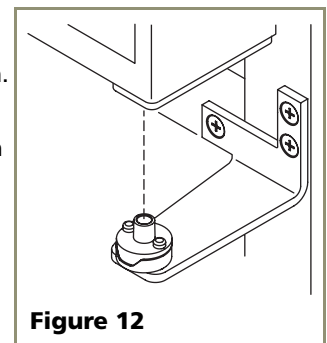

Figure 12
8. Holding door upright with top of door tilted forward, place hole of door pivot plate on bottom hinge screw pin (see **Figure 12**).